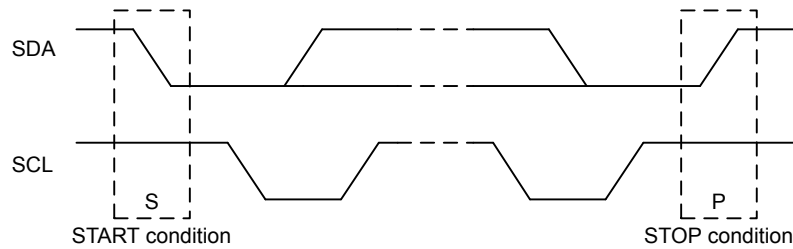

Figure 22.4. I²C START and STOP Conditions
START and STOP conditions are used to initiate and stop transactions on the I²C-bus. All transactions on the bus begin with a START condition (S) and end with a STOP condition (P). As shown in Figure 22.4 I²C START and STOP Conditions on page 652, a START condition is generated by pulling the SDA line low while SCL is high, and a STOP condition is generated by pulling the SDA line high while SCL is high.